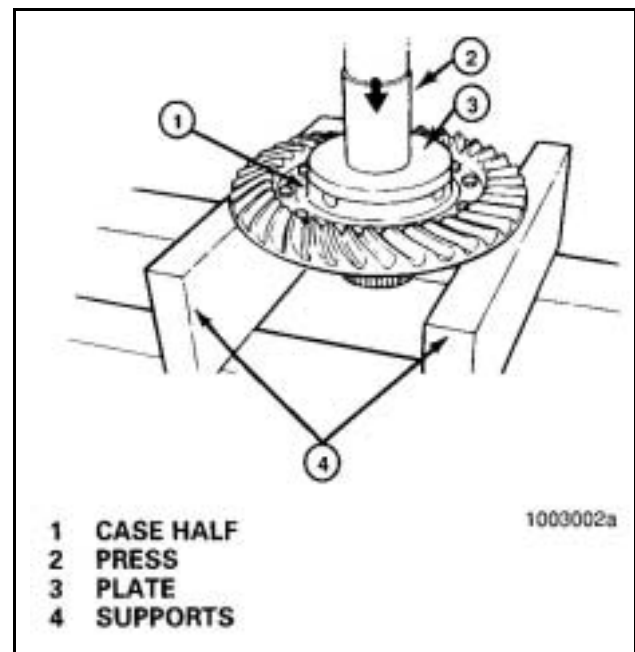

Figure 21
7. Separate the case half and ring gear using a press. Support the assembly under the ring gear with metal or wood blocks and press the case half through the gear. **Figure 21.**